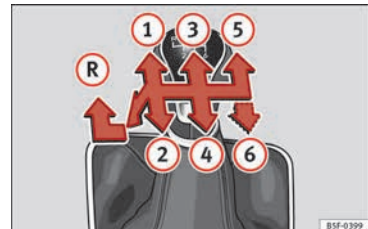

Fig. 45 Gear shift pattern of a 5 or 6-speed manual gearbox
The position of the gears is indicated on the gearbox lever » **Fig. 45**.
- With the gearbox lever in neutral, push it upwards, move it to the left as far as it will go and then forwards to select reverse » **Fig. 45**